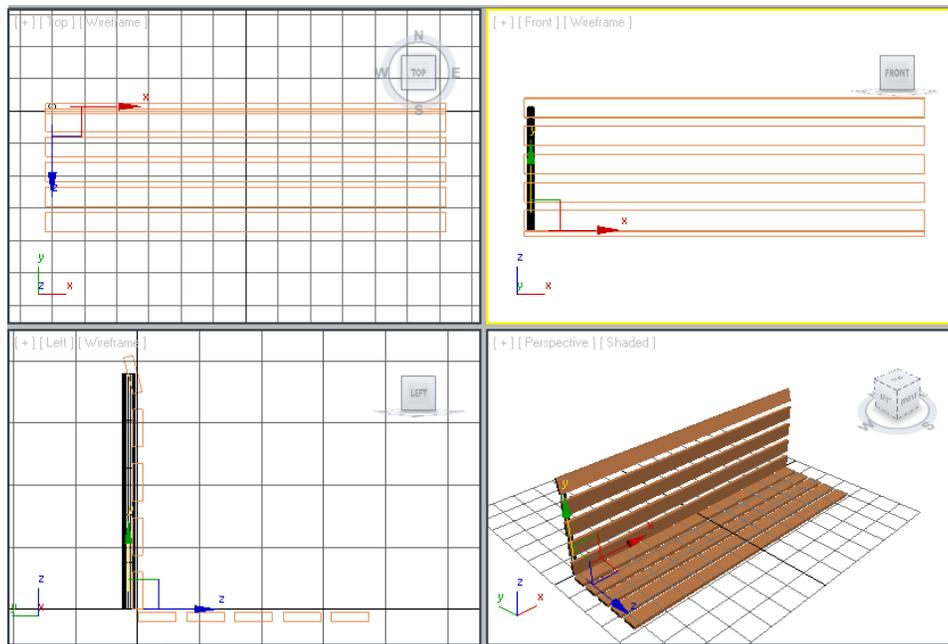

Figure 2-65 The vertical back support001 in all viewpoints
3. Now, choose the **Create** button in the **Keyboard Entry** rollout; a cylinder is created in all viewports, as shown in Figure 2-65.